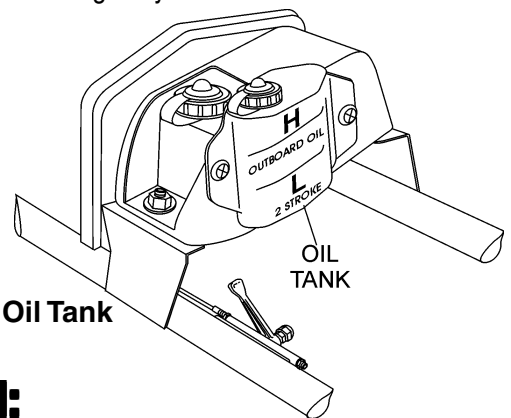

Figure 5. Oil Tank
1. Check the engine oil level at the sight gauge located on the operator's side of the **oil tank** (Figure 5). Fill the oil tank to the "H" level using only outboard (2-stroke) oil. Replenish the oil regularly before the oil level reaches the "L" level of the oil tank.